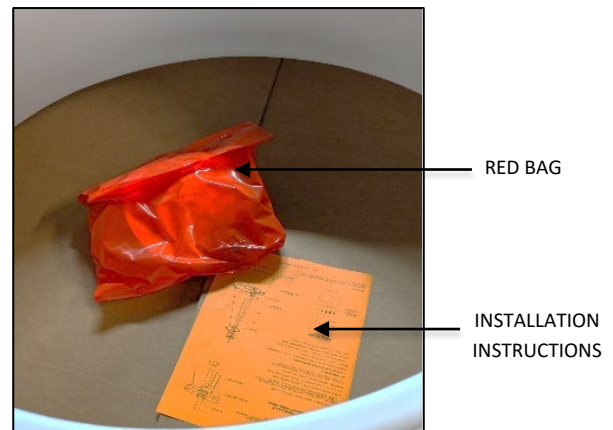

FIG.3 RED BAG AND INSTALLATION INSTRUCTIONS
2. INSTALLATION INSTRUCTIONS (shown in FIG. 3) - Please completely read the install instructions before starting installation.
3. RED BAG (shown in FIG. 3) contains